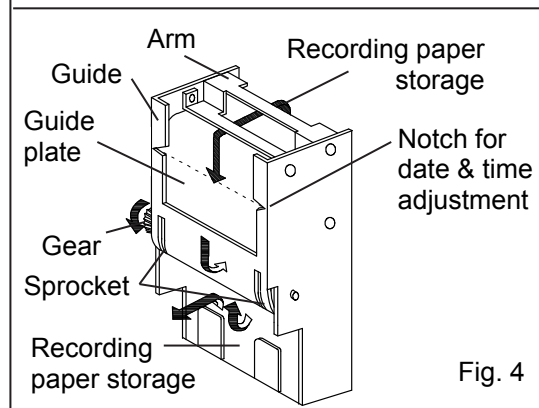

Fig. 4
4. Pass the recording paper under the arm through between the guide plate. (See Fig. 4)
The center of the recording paper is divided into 32 equal sections. The lines extending from these lines serve as the 32-day time scale. (Fig. 4)